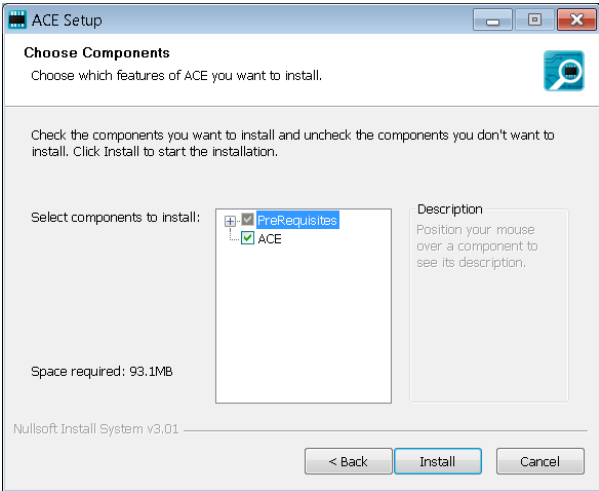

Figure 6. Choose Components
7. The **ACE** software components to install are preselected (see Figure 6). Click **Install**.